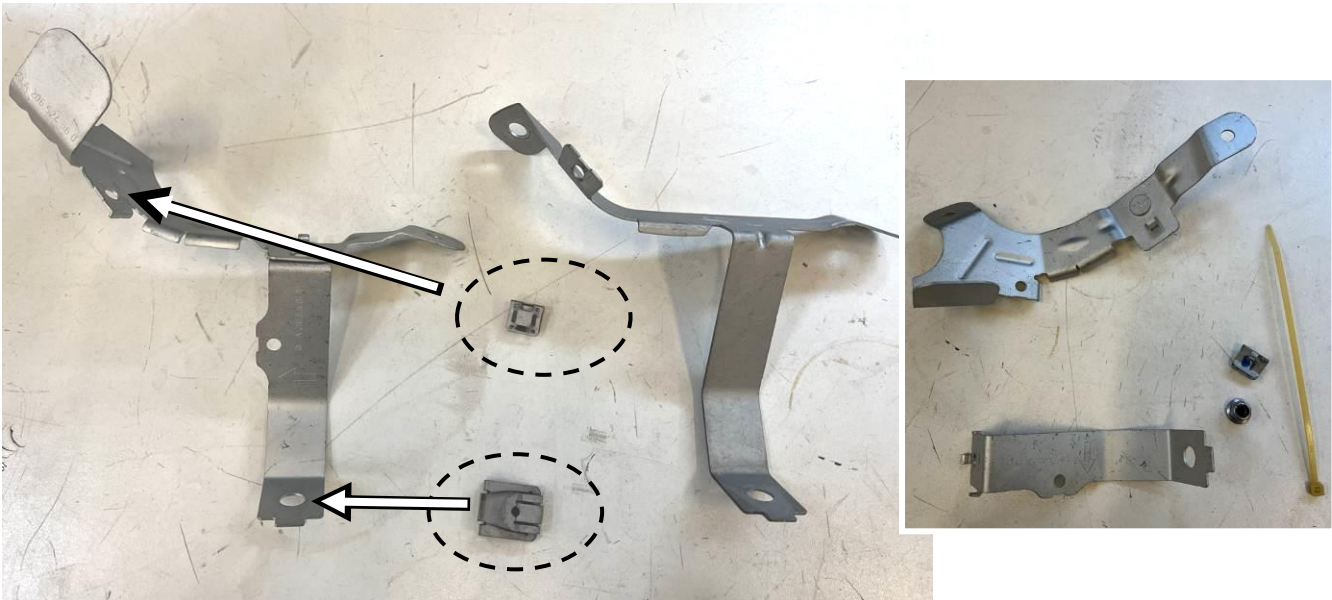

Figure 3
2. Remove retaining clamp for wiring harness and single-thread nut for engine compartment lining from detached holder and slide onto new modified holder (**Figure 3**).